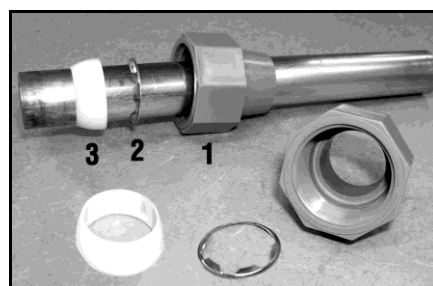

Figure 6: Qest Fittings
- B. Install Qest fittings if necessary. Qest connection fittings are provided with your appliance with built-in bypass. Qest fittings provide a convenient, easy-to-use three-piece assembly for 3/4-inch (19-mm) copper plumbing or 3/4-inch (19-mm) CTS CPVC plastic tubing. Ensure that the three components (1: collar, 2: metal retaining ring, and 3: nylon sleeve) are correctly installed in sequence on the pipe. See Figure 6.